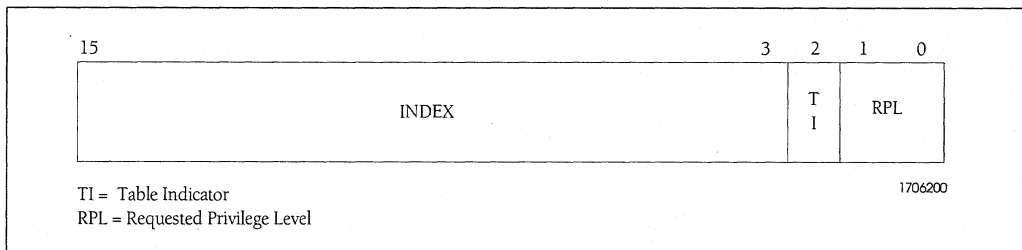

Figure 2-3. Segment Selector
In protected mode, a segment register holds a *segment selector* containing a 13-bit index, a table indicator (TI) bit, and a two-bit requested privilege level (RPL) field as shown in Figure 2-3.